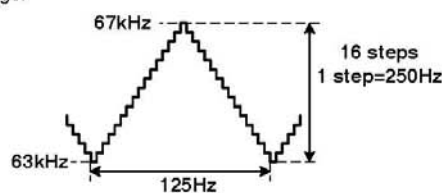

Figure 20. Frequency Modulation
The oscillator frequency is set internally and a frequency modulation (FM) function reduces EMI. The average frequency is 65kHz and the modulation frequency is  $\pm 2$ kHz. The frequency varies from 63kHz to 67kHz with 16 steps. The frequency step is 250Hz and FM frequency is 125Hz, as shown in Fig. 20.